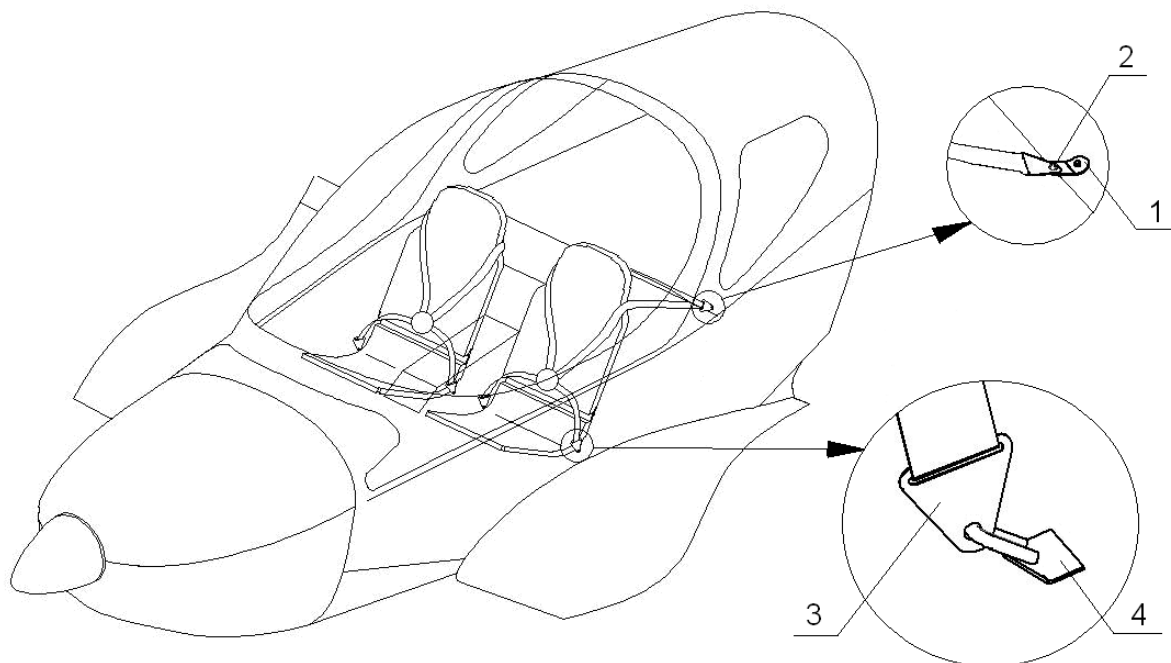

Fig. 7-2
- (a) Remove shoulder harnesses from the top attachment brackets (1) in luggage compartment (see Fig. 7-2). Remove the nut with distance washer and the bolt (2).
- (b) Remove the side harnesses from the side attachment brackets (4) – remove snap-hook (3).
- (a) Install the side harnesses (see Fig. 7-2) – put snap-hooks (3) into side attachment brackets (4) on the gear channel.
- (b) Install the shoulder harnesses – put on the bolt (2) distance washer and insert the bolt (2) into the top attachment bracket (1) in luggage compartment and screw the nut.